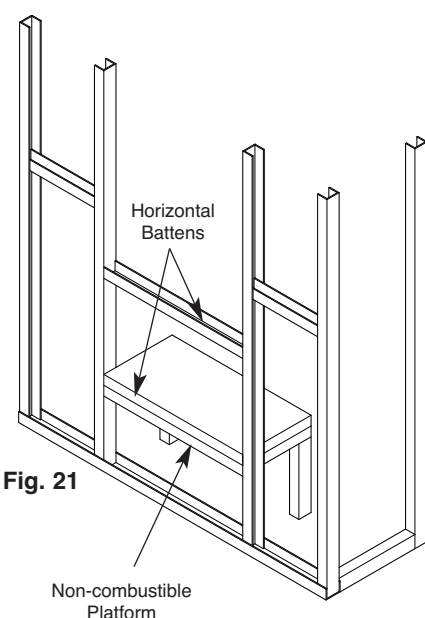

Fig. 21
4. Construct a suitable non-combustible platform large enough to sit the fire box on and level with the top of the lower horizontal batten (Fig. 21).